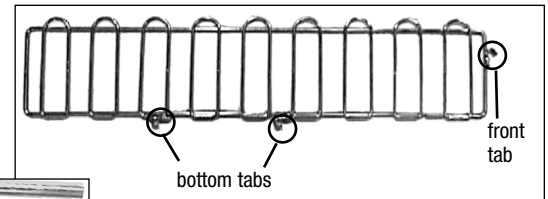

figure 6
- 1) To assemble the dividers, locate the two bottom tabs, as shown in *figure 6*. Place divider on shelf with front tab of divider pointing toward the front upturn of shelf.